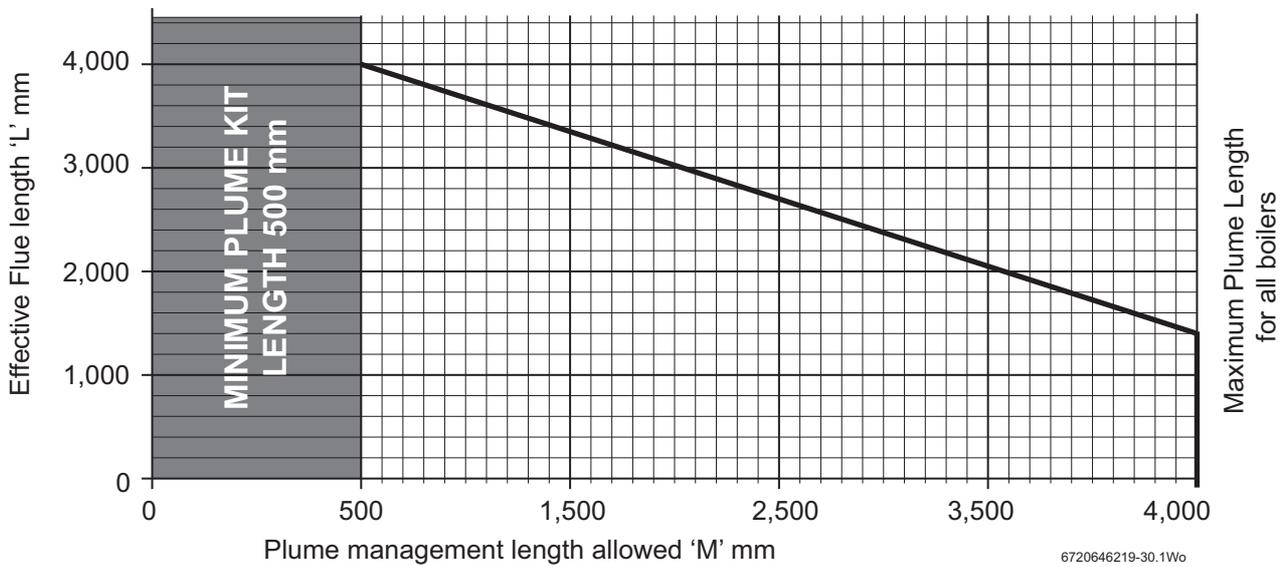

Fig. 36 Effective flue lengths versus plume management lengths
Refer to figure 36 to determine the appropriate plume length versus the flue length (L).
All boilers have a maximum permissible plume management length, refer to figure 36.